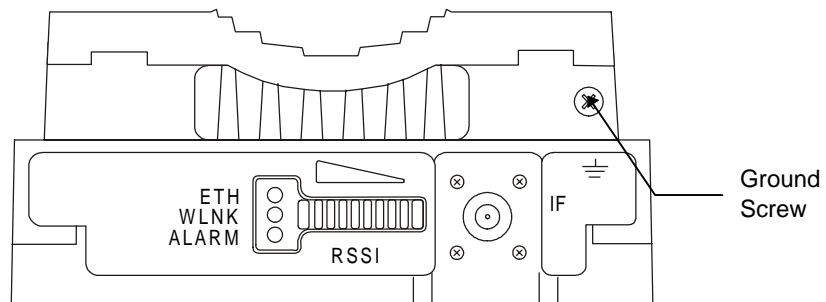

Figure 2-6. SU-RA/RE Outdoor Unit Bottom Panel
The Ground terminal (marked \oplus) and the IF cable connector (marked IF) are located on the bottom panel of the SU-RA/RE Outdoor unit, shown in Figure 2-6.
3. The RSSI bar display is located on the bottom panel of the Outdoor unit (refer to Figure 2-6). The eight green RSSI LEDs are used for reading the Received Signal Strength Indication. The higher the number of green LEDs that are ON, the higher the level of the received signal. Rotate the antenna left and/or right until you reach the point of maximum RSSI reading. Make sure that at all times, the front of the antenna faces the general direction of the base station.
To verify correct operation, view the LED indicators located on the bottom panel of the Outdoor unit as shown in Figure 2-6 on page 12.